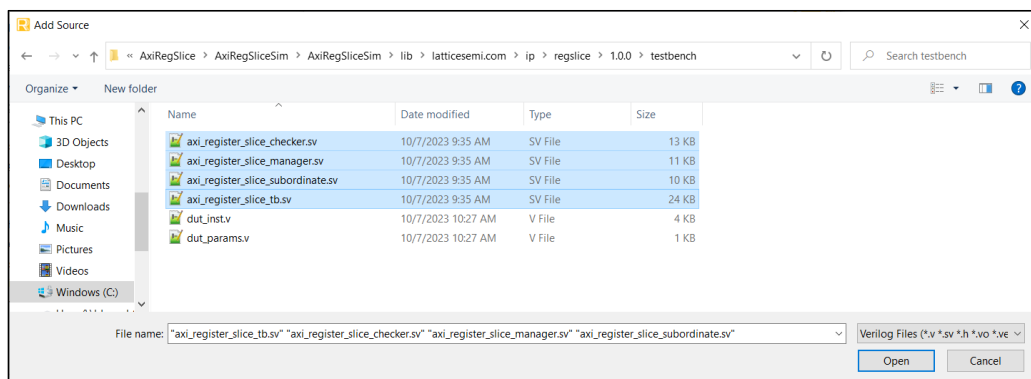

Figure 2.30. Adding SV Files to Project Root Path
18. Add the files for the testbench files as shown in Figure 2.30.